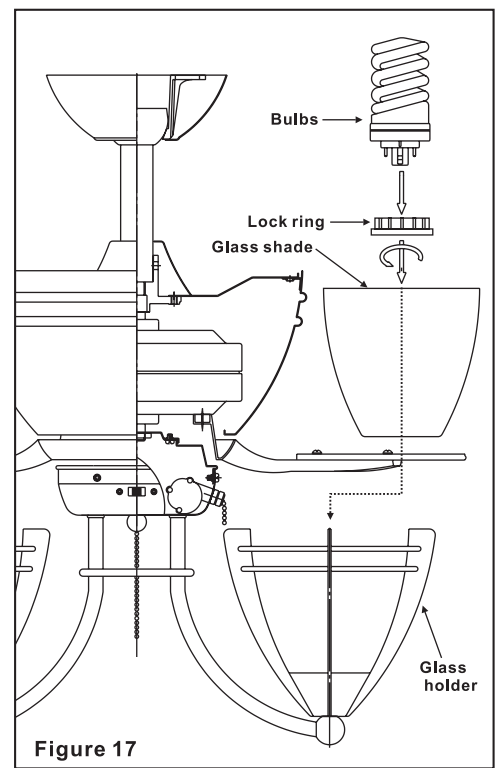

Figure 17
4. Remove the lock ring from the socket by turning the lock ring counter-clockwise until it unlocks. Insert the glass into the glass holder and turn the lock ring clockwise to tighten the glass. Repeat for the remaining glass. (Fig. 17)
5. Install a 13 watt (max.) fluorescent lamp (included) for each socket. (Fig. 17)